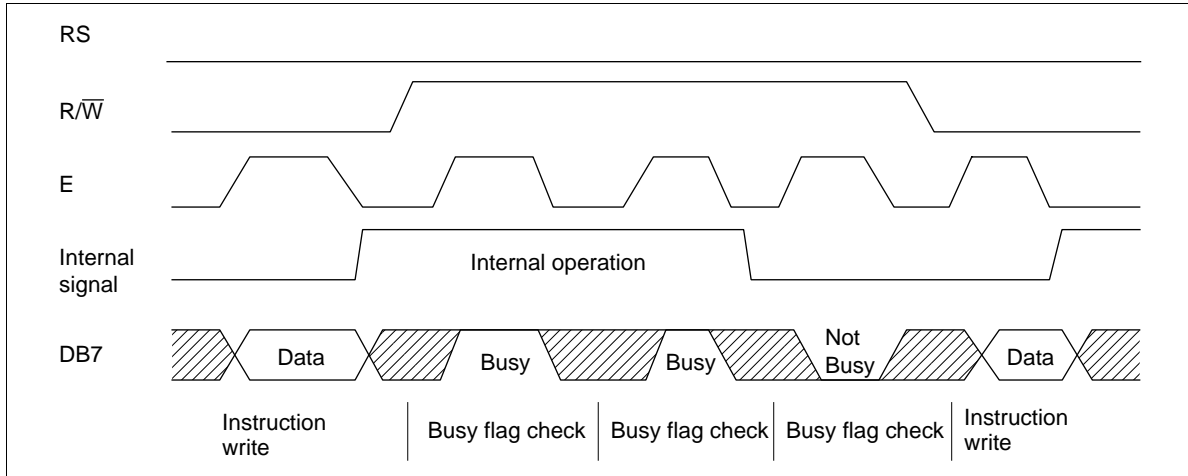

**Figure 17 Address Counter Update**
- \* After execution of the CGRAM/DDRAM data write or read instruction, the RAM address counter is incremented or decremented by 1. The RAM address counter is updated after the busy flag turns off. In Figure 17,  $t_{ADD}$  is the time elapsed after the busy flag turns off until the address counter is updated.